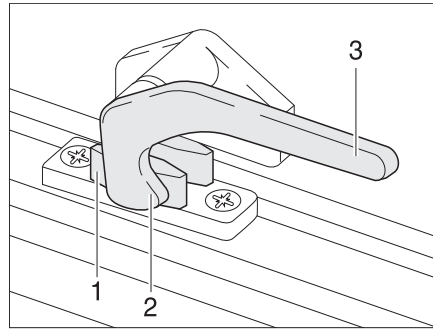

Fig. 69 Catch lever in "closed" position
- Turn the catch lever (Fig. 69,3) a quarter turn towards the centre of the window.
- Turn the catch lever (Fig. 69,3) a quarter turn towards the window frame. The locking catch (Fig. 69,2) is located on the inside of the window catch (Fig. 69,1).
- Firmly closed (Fig. 69).